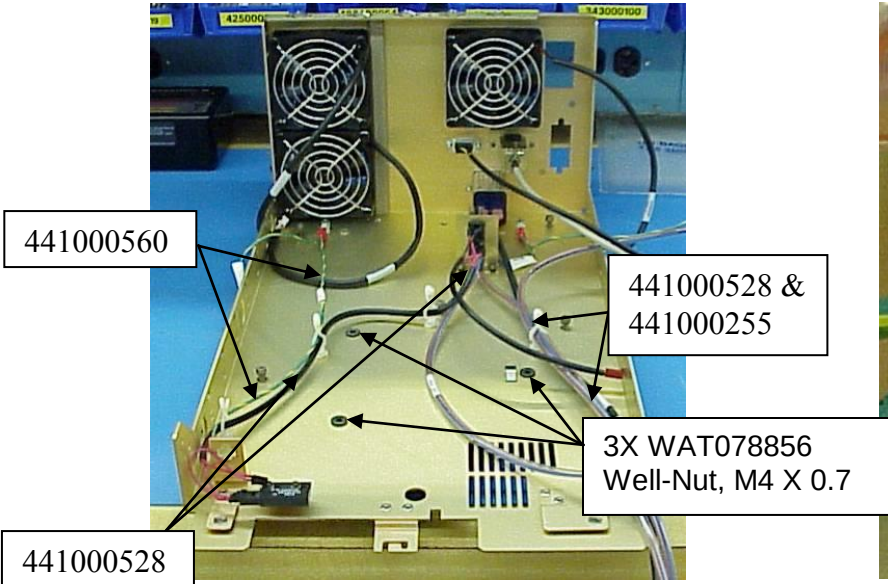

Figure 11a
5.1 Assemble the relay bracket to the chassis; route and twist-lock the cables (Figure 11a)
6.0 Insert the well-nuts into the chassis(see Fig. 11a)